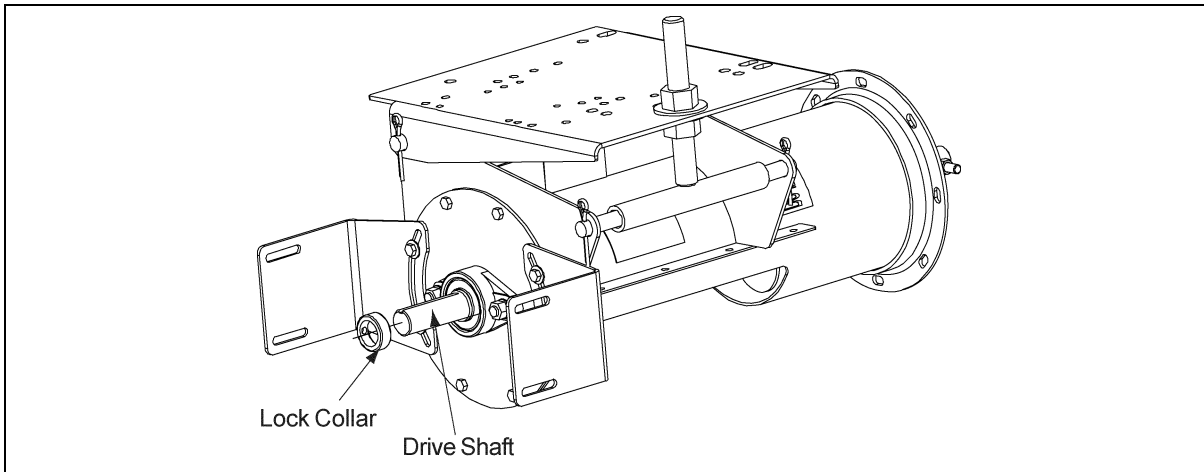

Figure 4H
- A. Slide the Lock Collar over the Drive Shaft, positioning it against the bearing. Do not tighten the lock collar at this time as it will be tightened later in the assembly. (See Figure 4H).